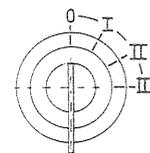
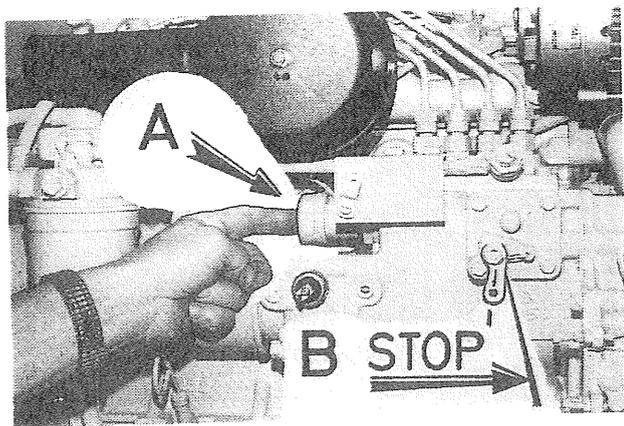
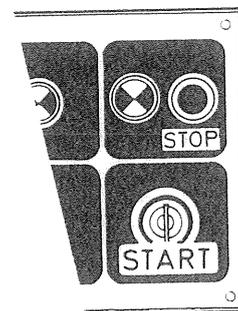

Fig. 15
Fig. 16
Fig. 17
- 0 NØKKEL: Settes i (eller trekkes ut) (fig. 15).
- 0 KEY: Insert key (or pull out) (fig. 15).
- II GLOW: Hold the starter switch key (fig. 15) on pre-heat position for 10—30 sec. to heat the glow plugs. The time of heating depends on ambient air temperature.
### STOPP (side 23, fig. 16 og 17):
Stopp motoren ved å trykke inn stoppknappen (fig. 17). (Hvis stoppknappen holdes nede i mer enn 10 sekunder, kan stoppsolenoiden (A, fig. 16) ødelegges.) Slå av batteribryteren.
Der finnes også en nødstopphendel (B, fig. 16) på brennoljepumpen. Denne kan brukes hvis den elektriske stoppen ikke virker.
### STOPPING (Page 23, fig. 16 and 17):
Stop the engine by pushing down the stop button (fig. 17). Turn off the charging switch and the battery main switch. (If stop button is pressed for more than 10 sec., the stop solenoid (A, fig. 15) may be damaged.) Turn off battery switch.
An emergency stop lever (B, fig. 16) located on injection pump to be used if electric stop control is out of order.